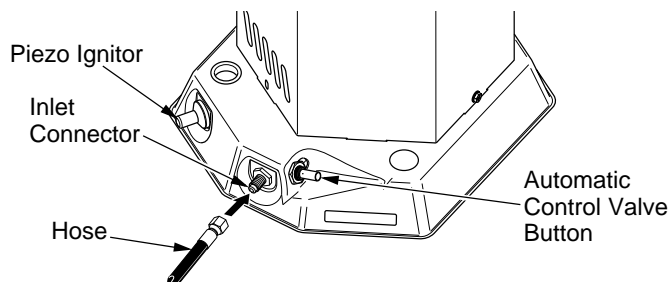

Figure 3 - Hose and Inlet Connector, Automatic Control Valve Button and Piezo Ignitor Button Locations
3. Connect hose to inlet connector (see Figure 3). Tighten firmly using a wrench.
6. Push in and hold automatic control valve button (see Figure 3). Push and release piezo ignitor button (see Figure 3). Keep pushing piezo ignitor button until the burner lights. Hold control knob down for a maximum of 10 seconds while attempting ignition. If heater does not light, release control knob and wait 30 seconds. Repeat step 6 to start heater. *Note:* Keep hands and face away from outlet (around top of shell) of heater while attempting to start heater. After ignition, hold control knob down for approximately 30 seconds. This activates the automatic control system.